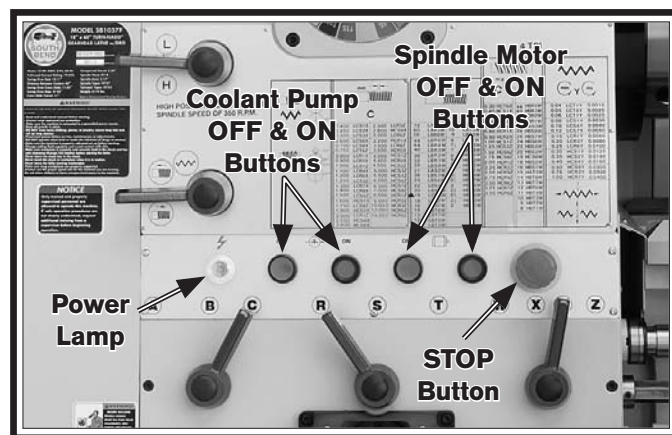

Figure 25. Control panel.
5. Push the STOP button on the control panel (see **Figure 25**), and point the coolant nozzle into the chip pan.